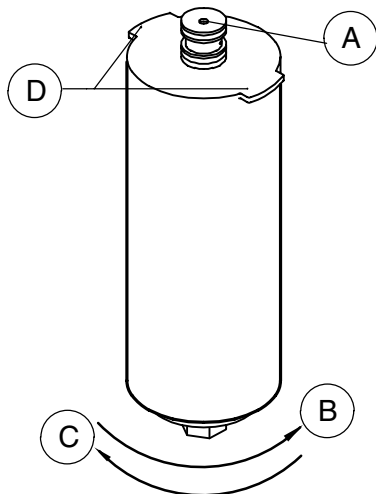

Fig. 6 Water filter
When the filter-replacement indicator (fig.1 C1) flashes, the water filter at the rear of the device (fig.1 I) must be replaced (fig.6):
6. Rotate the filter to be replaced through 90° in a clockwise direction (fig.6 C).
9. Hold the new filter in such a way that the fixing cams (fig.6 D) are pointing towards the sides of the device.
10. Position the filter directly beneath the filter connections (fig.6 A) and use a little force to push it upward so that the fixing cams (fig.6 D) are touching the edge on the filter connection.
11. Now rotate the filter in an anticlockwise (fig.6 B) direction until it can be turned no further, thereby locking the filter in place.